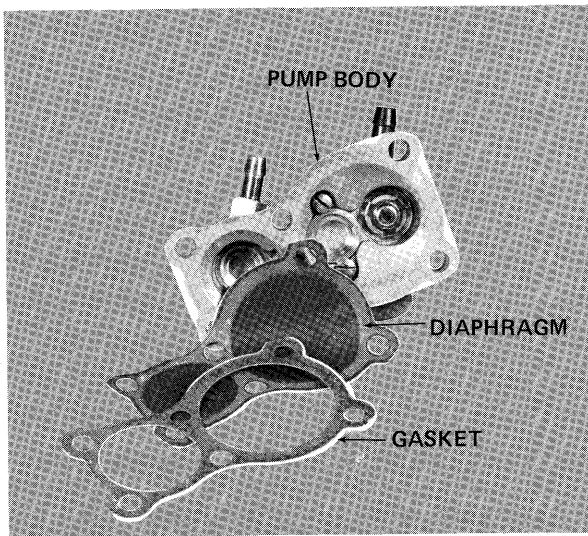

Figure 3—Fuel Pump Body, Gasket and Diaphragm
- A. Position fuel pump gasket and diaphragm on fuel pump body as shown in figure 3. Install fuel pump body on fuel pump cover and secure with six (6) screws.